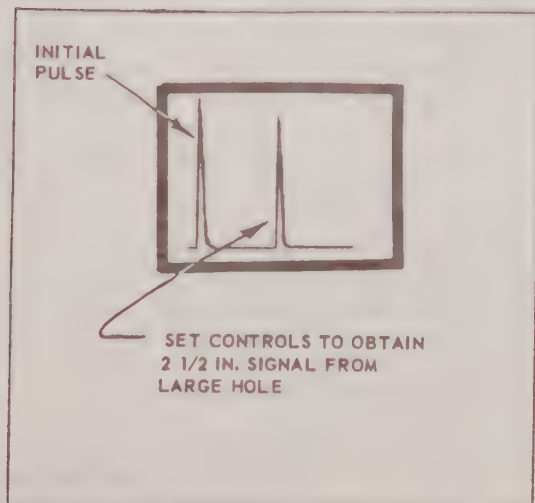

Figure 3-10 Various CRT Hole Reflections
- (14) Set Sweep Control to 1.5 inches and Delay Control so initial pulse starts at first reference mark.
- (15) With search unit over the large hole, set controls to obtain a 2-1/2" hole indication. (Figure 3-10).